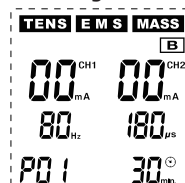

Fig. 13
- ⑱ **(B)**: Special programmes for the **back** (see Fig. 13)